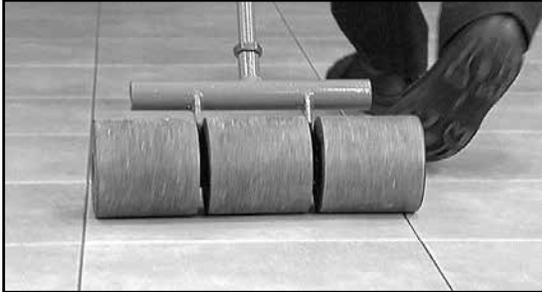

Fig. 16 - Roll the floor within one hour after setting tiles.
- Roll the floor slowly, in both directions, with a 100-pound, three-section roller within one hour after setting the tiles (Fig. 16). Re-roll the entire floor immediately before grouting or applying joint sealer.